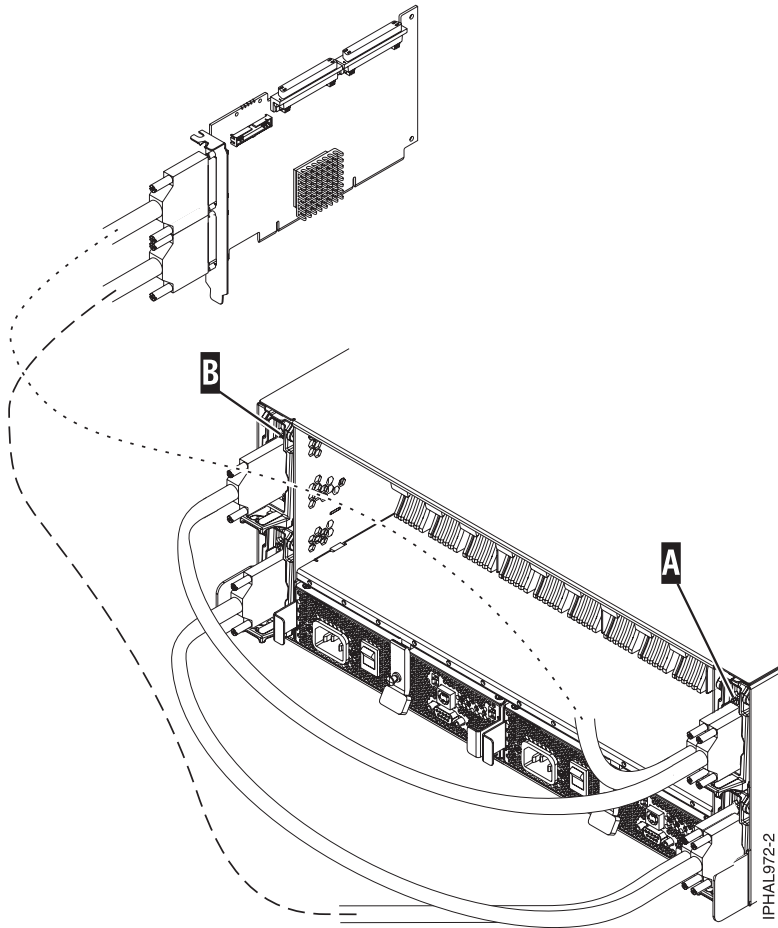

Figure 20. SCSI cable to a dual repeater card that is connected to a single repeater card
- If you are using a combination of single and dual repeater cards, connect a SCSI cable to the dual-initiator repeater card (A). Then, connect the dual repeater card (A) to the single repeater card (B) by using a different SCSI cable. For more information, see Figure 20 on page 60.